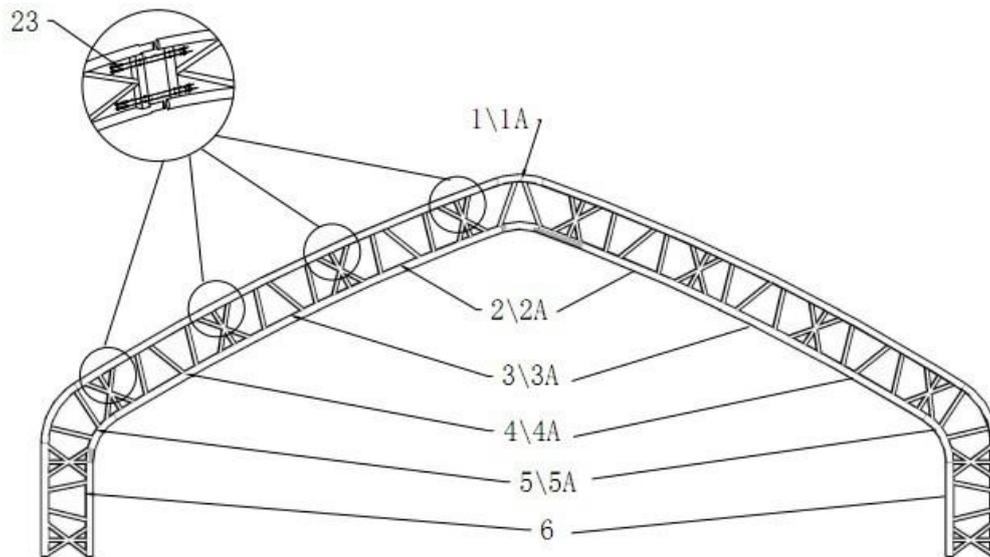
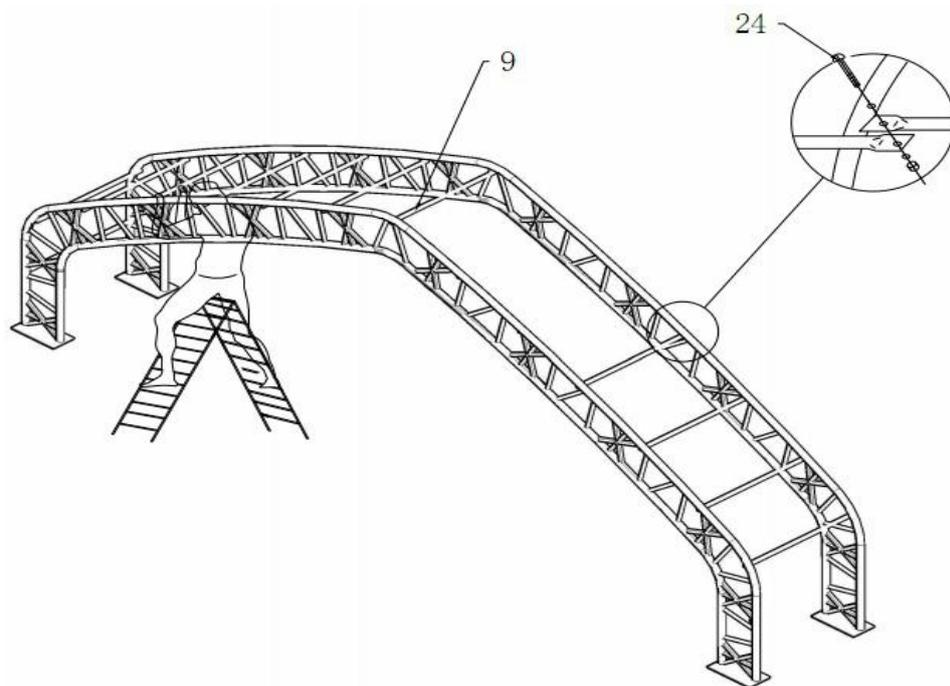

Figure 3
Figure 4
1. Figure 3 shows to connect the Top roof tube, Upper curving tube, Middle curving tube, Lower curving tube, Sidewall curving tube and Standing leg with Bolt M12x50, and assemble every group of arch by turns (see Figure 4).
2. Connect Purlin to arch by using Bolt 12x100 by turns (see Figure 4).